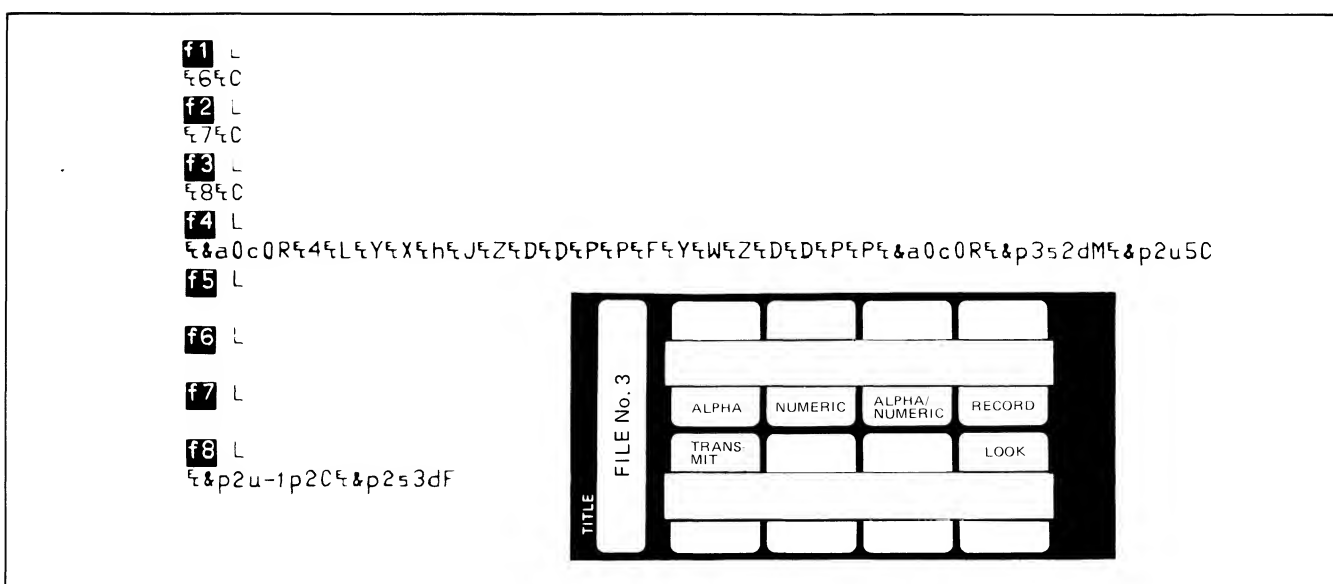

Figure A-3. Soft Key Programming and Soft Key Overlay for File 3
8. Program the keys for phase 3 using figure A-3.